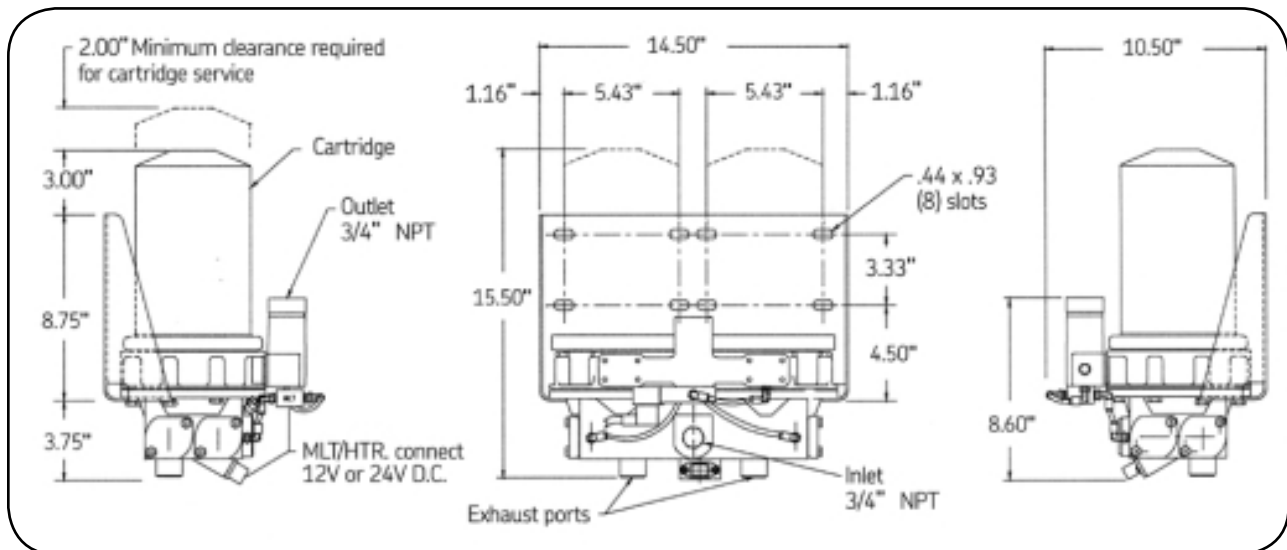

Fig. 2 Unit dimensions
1. After determining proper location for air dryer as instructed in "Basic mounting instructions" section, refer to Fig. 2 drawing for mounting reference dimensions.
3. Refer to Fig. 2 drawing to position mounting holes properly on vehicle to match mounting slot locations in air dryer mounting bracket. Tighten bolts to 25-30 ft. lbs. torque.
1. Connect the compressor discharge line to the air dryer's lower 3/4" NPT 'INLET' port (see Fig. 2).
2. Connect the air dryer's 3/4" NPT 'OUTLET' port (see Fig. 2) located at top center, to inlet port of #1 air tank (wet tank) of vehicle.